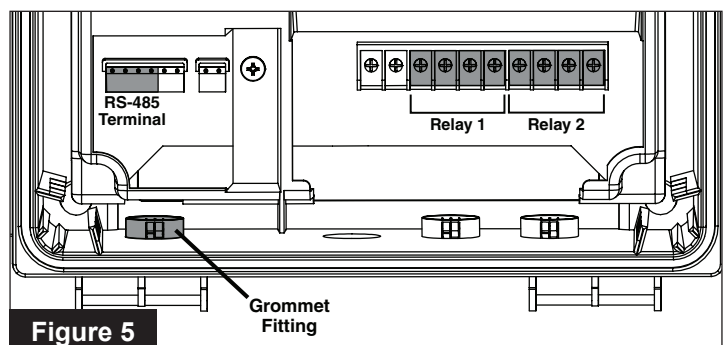

Figure 5
A single speed filter pump should be wired to either Relay 1 or Relay 2 (**Figure 5**).
Each IntelliFlo Variable Speed Pump is shipped with a 50 ft. (15.2 m) RS-485 communication cable. This cable will be used to connect IntelliFlo to IntelliConnect's RS-485 Terminal (**Figure 5**).
5. Insert the cable conductors into the left-most Grommet Fitting (**Figure 5**) and pull the cable into the wiring compartment.
6. Insert the GREEN and YELLOW conductors into the RS-485 Terminal (**Figure 5**) according to the markings on the control board and secure them in place.
Equipment wired to Relay 1 or Relay 2 (**Figure 5**), and designated as either "Other (Flow Dependent)" or "Booster Pump" in the Pentair Home app, will not energize until the filter pump has run for 2-minutes and allowed the system time to prime.
A booster pump should be wired to one of the two Relay terminals (**Figure 5**).
A salt chlorine generator should be wired to one side of the RS-485 Terminal (**Figure 5**) according to the markings on the control board.